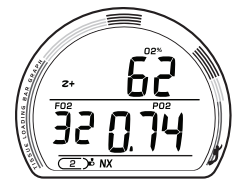

Fig. 75 - DECO STOP ALT 4
**DECO STOP ALT 4**, information includes (Fig. 75) -